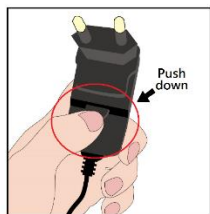

Fig.1
1. Assemble the adaptor plug to the transformer. (Fig.1 and Fig.2)